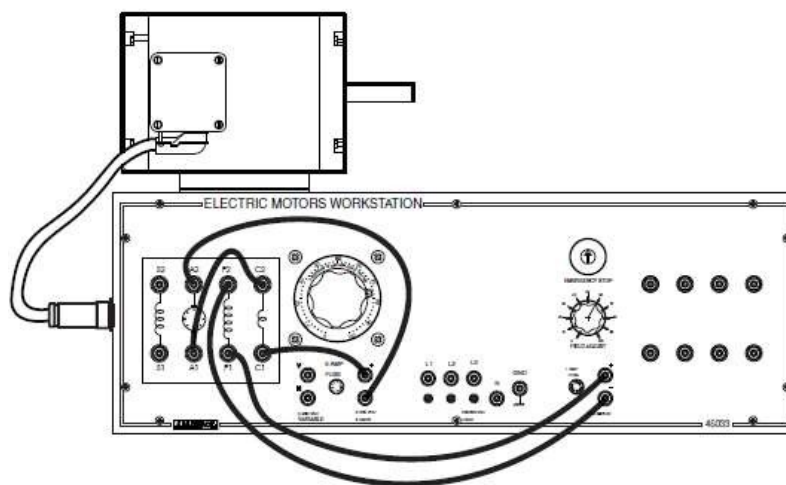

Figure 7: The wiring connections for a separately-excited DC shunt motor
2. Verify the connections on the Machines Training Unit by reviewing the illustration in Figure 7, which shows the connections between the different banana jacks on the Unit.